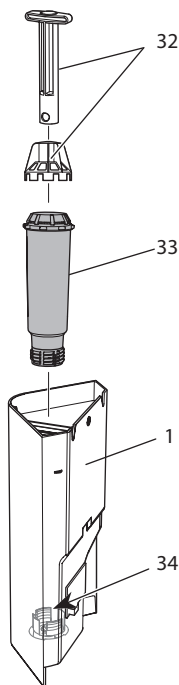

Fig. 18: Screwing/Unscrewing the water filter
7. Insert a new filter in the water tank (see Fig. 18).
2. Remove the water filter (see *Fig. 18*).